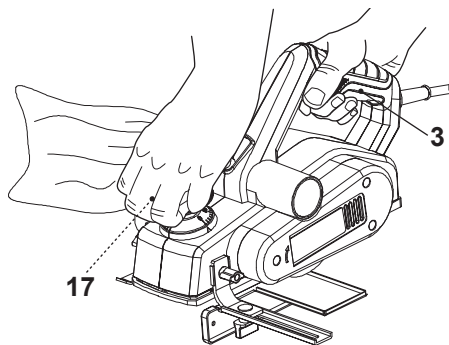

Fig. 7
2. Hold the product with one hand on the handle (3), and with the other hand on the knob (17) (Fig. 7). Avoid turning the knob (17) while doing so or it will alter the set planing depth.